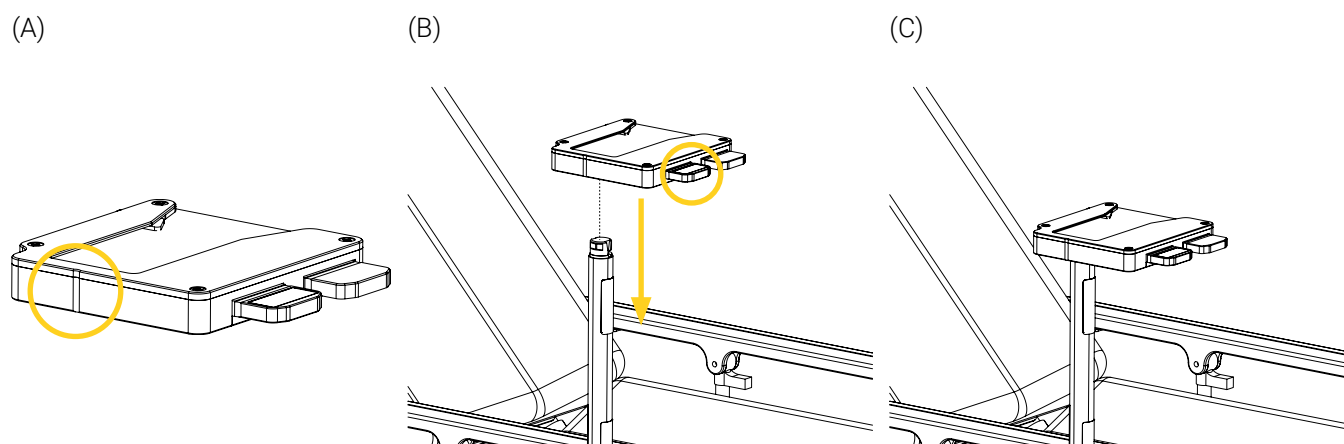

Figure 13: Installing the NVM Support Bracket on the pole
1. Align the indicator on the NVM Support Bracket with the pole, ensuring that the quick release button on the support bracket is facing patient foot end (Figure 13 A).
2. Press and hold the rotation/quick release button on the support bracket, then insert the bracket on the pole (Figure 13 B) paying close attention not to wedge the power cords or tubing, and release the button to secure it (Figure 13 C).